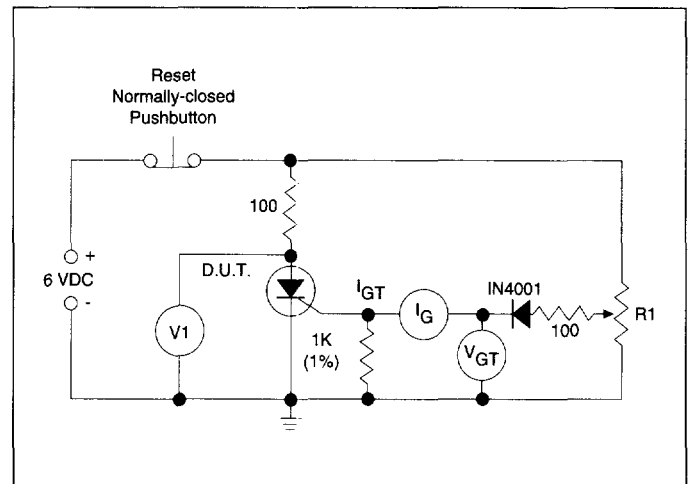

Figure 5.19 Simple Test Circuit For Gate Trigger Voltage and Current Measurement
- (10) Test condition is maximum rated RMS current except TO-92 devices are 1.2 A_{PK} ; T106/T107 devices are 4 A_{PK} .
- (11) $V_D = 6VDC$, $R_L = 100\Omega$. See Figure 5.19 for simple test circuit for measuring gate trigger voltage and gate trigger current.